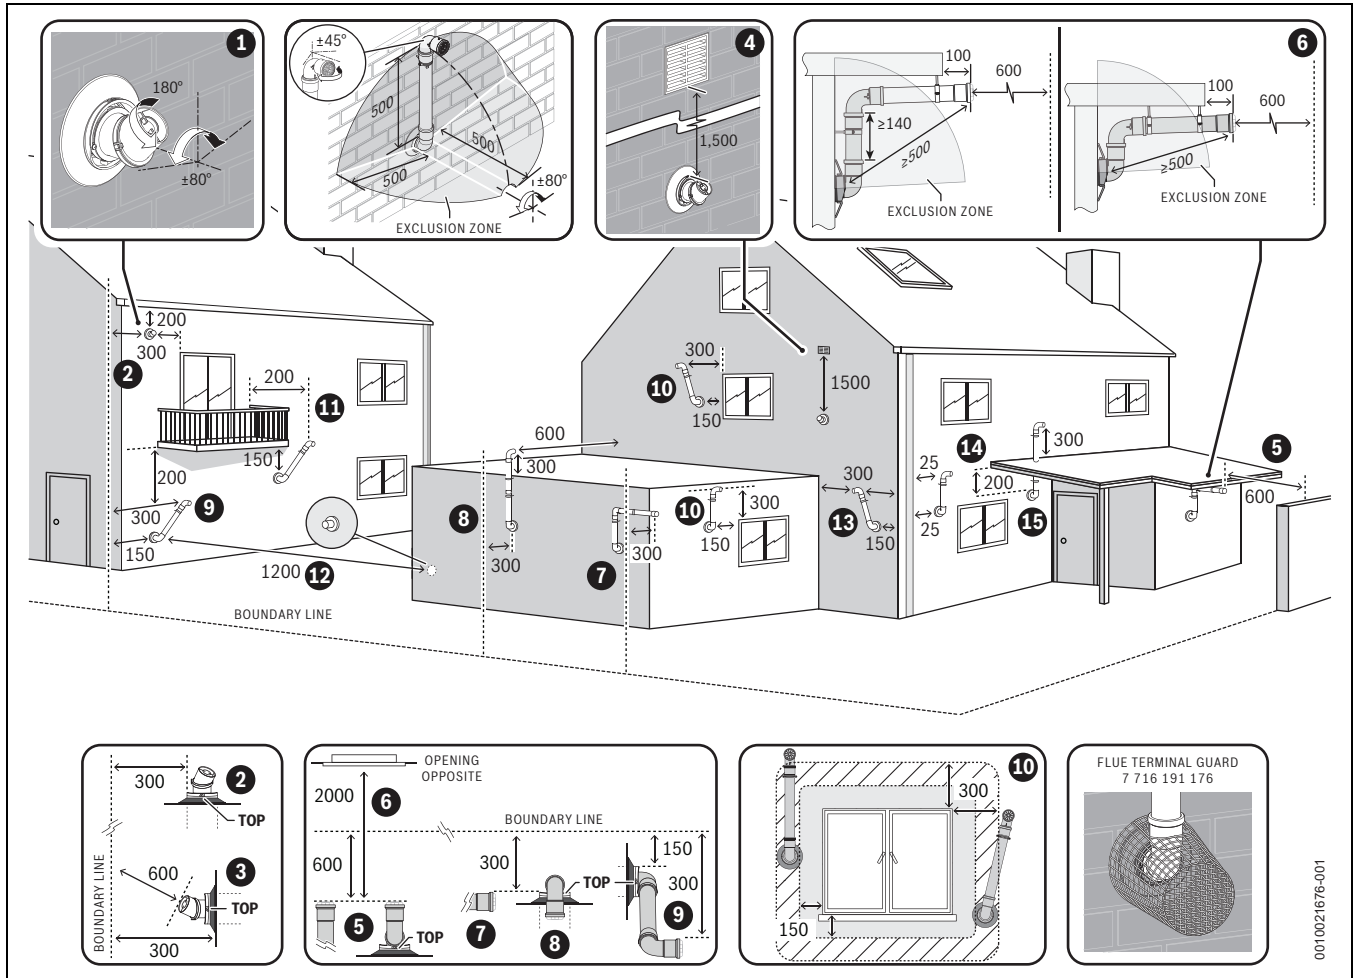

Fig. 30 Plume re-direct and plume management terminal positions
- ▶ Refer to “Horizontal flue terminal positions” for all concentric flue terminal positions unless the flue position is specified in figure 30 “Plume re-direct and plume management terminal positions”.
**Key to figure 30 - Plume re-direct terminal positions:**
**Key to figure 30 - Plume management terminal positions:**